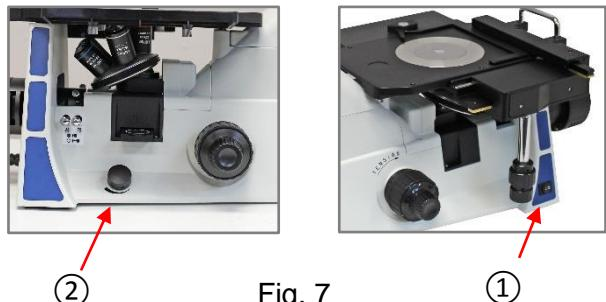

Fig. 7
Plug the 3-prong line cord into the microscope and then into a grounded 120V or 220V A.C. electrical outlet. Usage of a surge suppressor outlet is highly recommended. Turn on “—” the power switch ① (Fig. 7). For longer bulb life always turn the illuminator variable intensity knob ② to the lowest illumination intensity setting possible before turning the power on or off.
Adjusting the Illumination (Fig. 7)